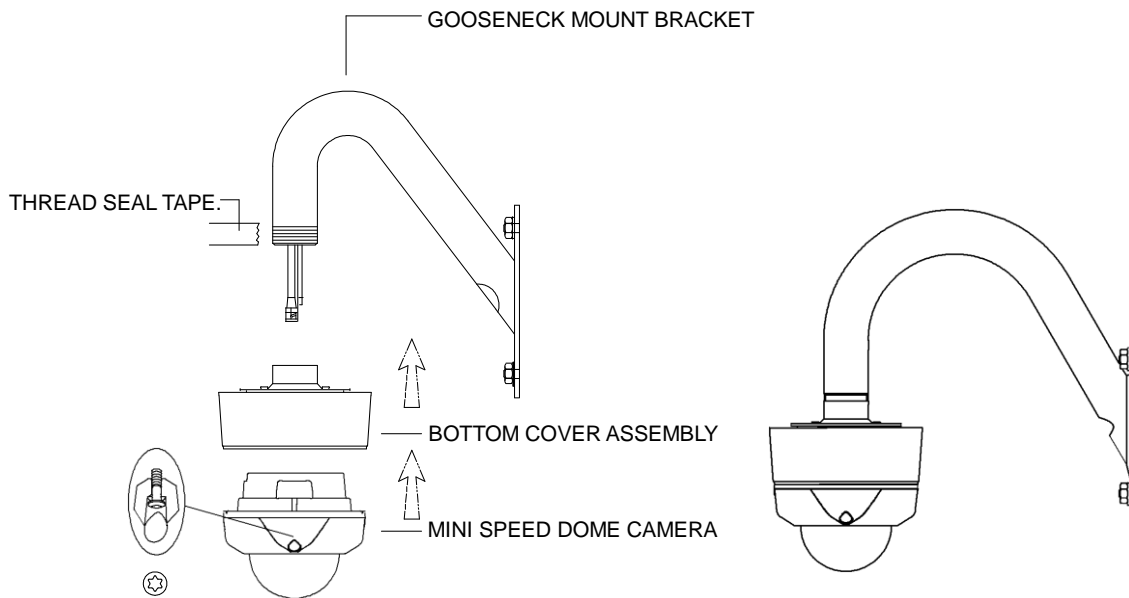

FIG. 17
3. As shown on FIG.17, after assembling mini PTZ and bottom cover assembly, drive the gooseneck mount bracket and fix. (FIG.17)